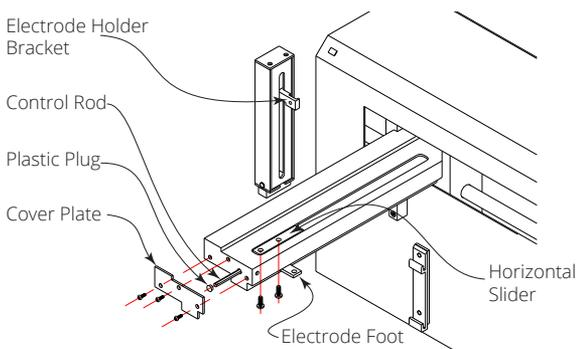

Fig. 7 — Installation of the vertical arm of the robotic sampler
1. To install the vertical arm, remove the cover plate from the front of the horizontal arm by removing its three screws (Fig. 7).